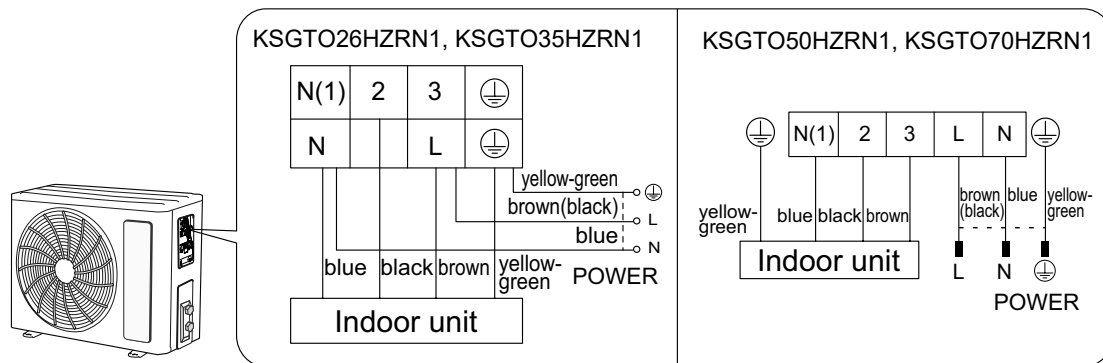

Fig.23
- (1) Remove the wire clip; connect the power connection wire and signal control wire (only for cooling and heating unit) to the wiring terminal according to the color; fix them with screws. (As shown in Fig.23)